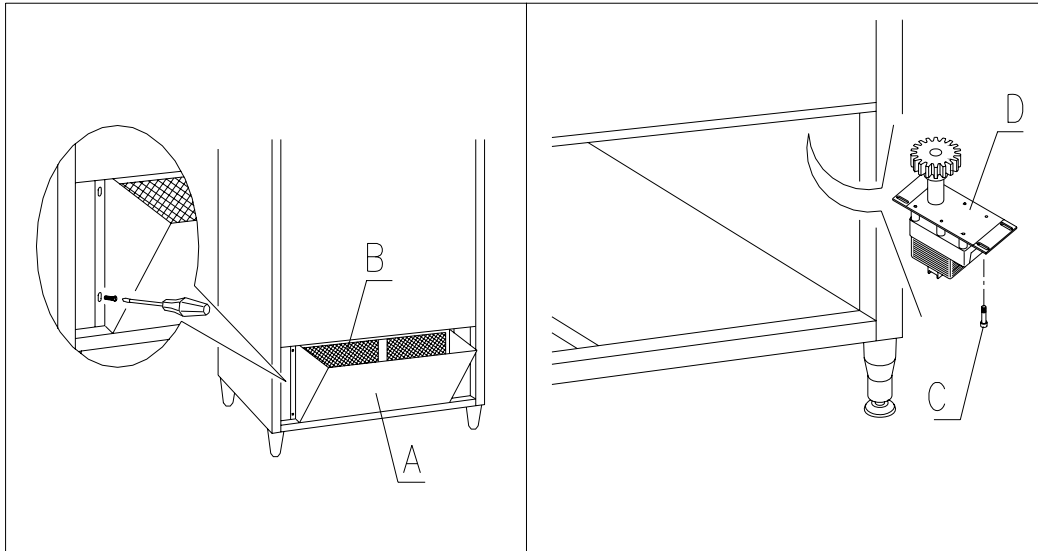

FIG. 18
8.10 REPLACING THE COLUMN ROTATION MOTOR GEARBOX UNIT FIG. 18